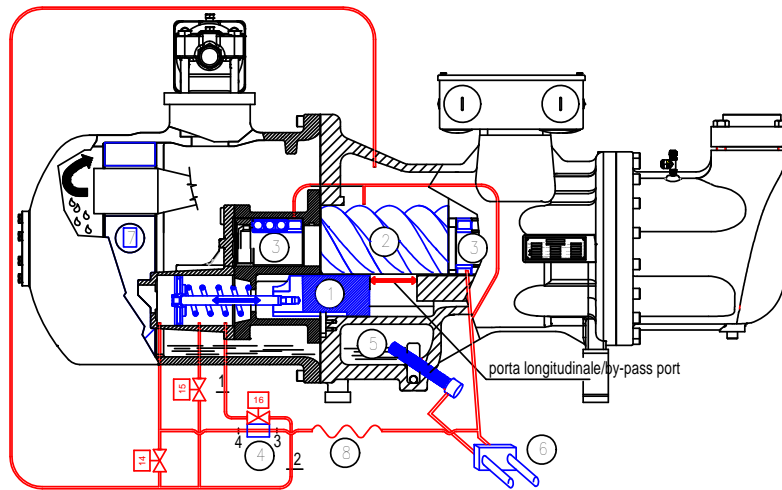

Fig. 15: step capacity control oil circuit
The cylindrical chambers that house the screw rotors are fitted with a longitudinal port, whose connection with the suction side is regulated by the position of the slide valve (17), see Fig. 15.
In the configuration with 4 steps the slide valve automatically returns to the position of minimum capacity after the compressor stops. In fact, due to the pressure difference the oil can flow out of the cylinder to the crankcase through the pipe marked by number 20, see Fig. 15. Therefore the compressor can start again at the minimum capacity.